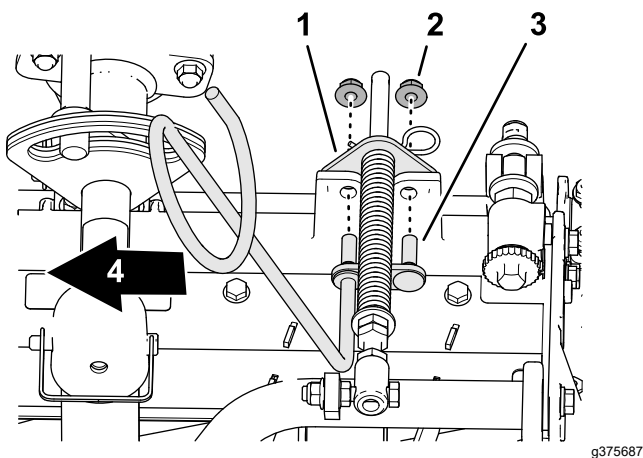

Figure 10
5. Align the studs of the left hose guide with the holes in the cutting-unit frame and the turf-compensator bracket (Figure 10).